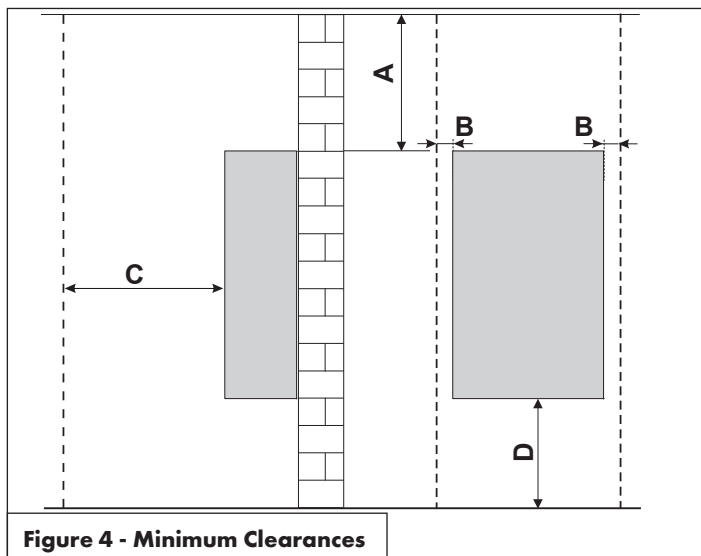

Figure 4 - Minimum Clearances
**NOTE:** If you do not provide the minimum clearances shown in Figure 4 and Table 6 it might not be possible to service the boiler without removing it from the space.